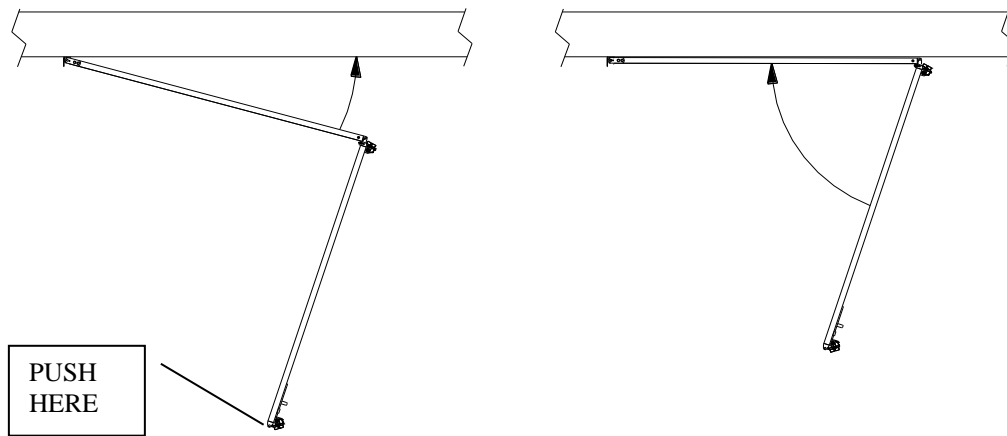

Figure 8
- 3.** Position the gate and panel against the wall using the opposite edge of the gate to push the panel to the wall, continue swinging until the gate is against the wall. See Figure 8.